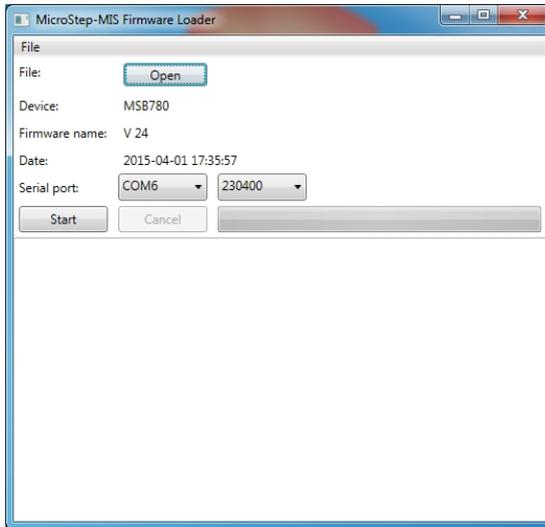

Figure 11: Information about selected firmware
3. After selecting the firmware file, you can see the information about the firmware, as seen in Figure 11.